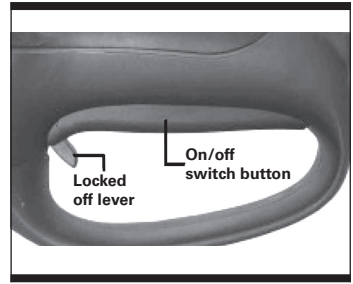

Fig 4
4. SWITCH (see fig4)
The On/Off trigger switch is sprung in the OFF position. The angle grinder is started by pushing forward the locked off lever and simultaneously gripping the trigger switch. See fig4. To stop the angle grinder, release the trigger switch and it will automatically return to the OFF position.